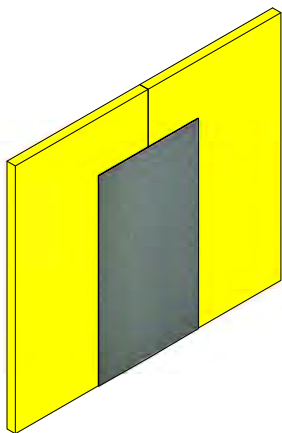

Figure 1
1. Mix ACROSTOP-R per the product bulletin instructions. Apply a generous receiving coat to completely saturate the SHEATHING FABRIC over the joint and out 2 to 5 inches on each side. (See Figure 1)